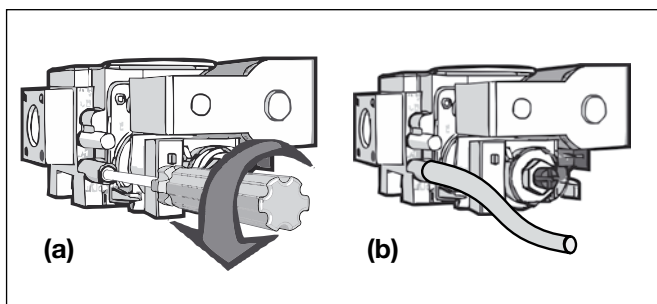

FIG 27
- The pressure point is closed with a captive screw. Turn screw 6 revolutions anticlockwise to open the pressure point as indicated on **FIG 27 (a)** and place manometer tube over the test point as per **FIG 27 (b)**.